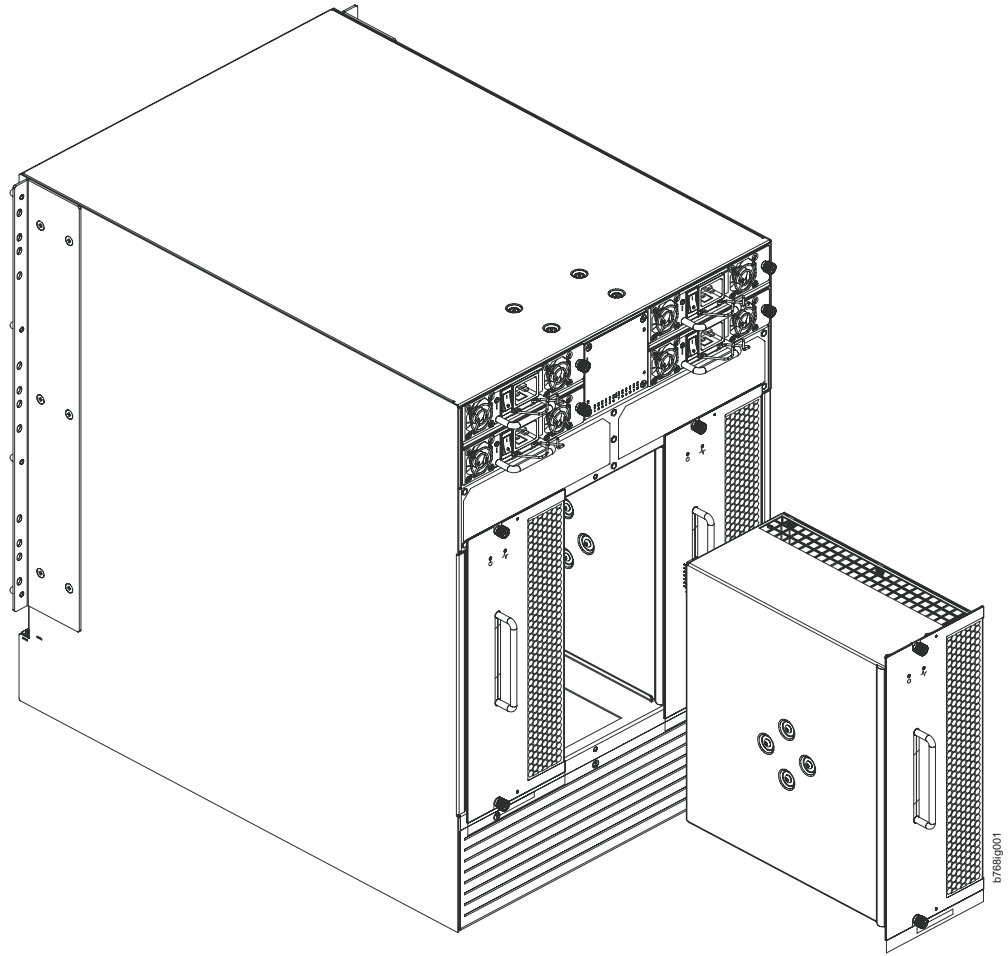

Figure 35. Removal and replacement of the blower assembly
2. Use the Phillips screwdriver to loosen the captive screws at the top and bottom of blower assembly (see Figure 35 on page 101).